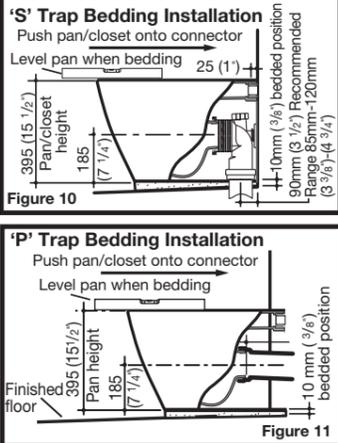

Figure 10
- 5- Position and push pan/closet into connector and flushpipe using the marked centre line on the wall as a guide and level pan into bedding mixture, so that the back of the foot of the pan/closet is approximately 10mm (3/8") above the finished floor, as detailed in Fig. 10 & 11. It is recommended that wedges are used to support the foot of the pan/closet during the positioning.